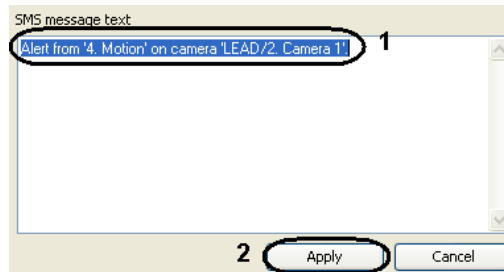

Fig. 6.5—36 SMS message text
5. To close the window and save changes, click **Apply** (see Fig. 6.5—36, 2).